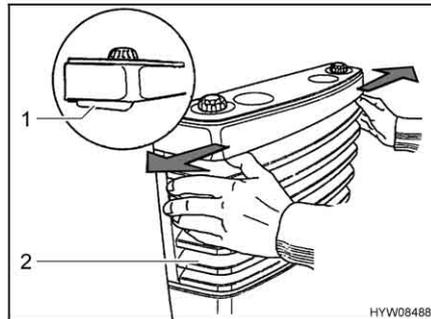

Fig. 142 Removing heater cover
- Remove heater cover (Fig. 142,2). To do this, press the two locking levers (Fig. 142,1) to the outside at the same time and tip the cover forwards.